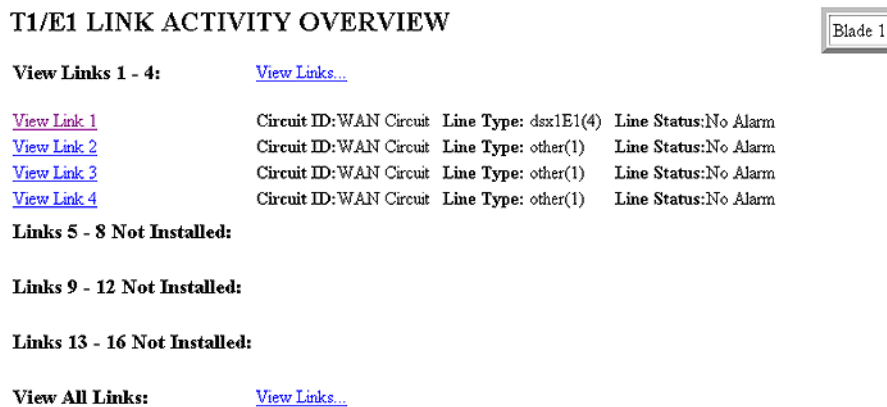

Figure 36. T1/E1 Link Activity Overview page
- On the *3096RC Configuration Menu*, click the *T1/E1 Link* hyperlink to open the **T1/E1 LINK ACTIVITY OVERVIEW** page (see figure 36).